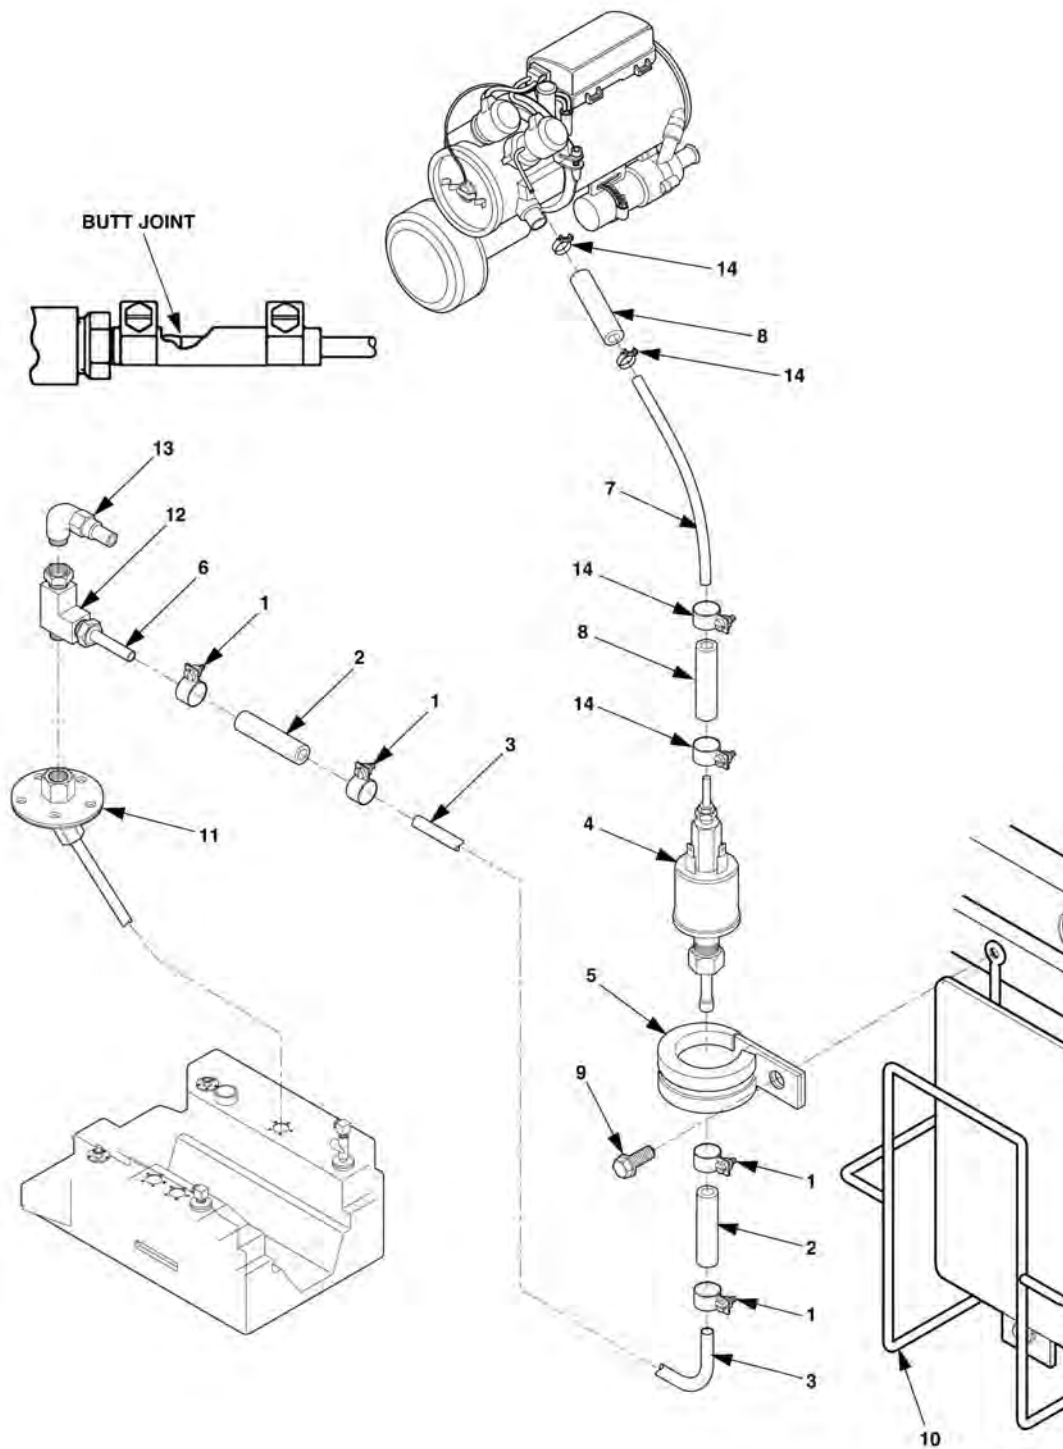

Figure 5-7. Fuel Pump and Lines Assembly
18. Remove fuel line and fitting (13), Figure 5-7, from fuel pickup assembly (11), and install tee (12).
19. Install fuel and elbow (13) and adapter (6), to tee (12).
20. Install butt splice (2) to adapter (6) using clamp (1).
22. Attach fuel pump (4), Figure 5-7, using clamp (5) and screw (9).
23. Install butt splice (2) to fuel pump using clamp (1). Install tubing (3) to butt splice (2) on fuel pump and adapter (6) using clamp (1).
The proper connection of fuel lines using a hose is a butt joint as shown in Figure 5-7.
24. Install butt splice (8), Figure 5-7, to fuel pump. Install tubing (7) from butt splice on heater fuel intake to butt splice (8) on fuel pump using clamps (14).